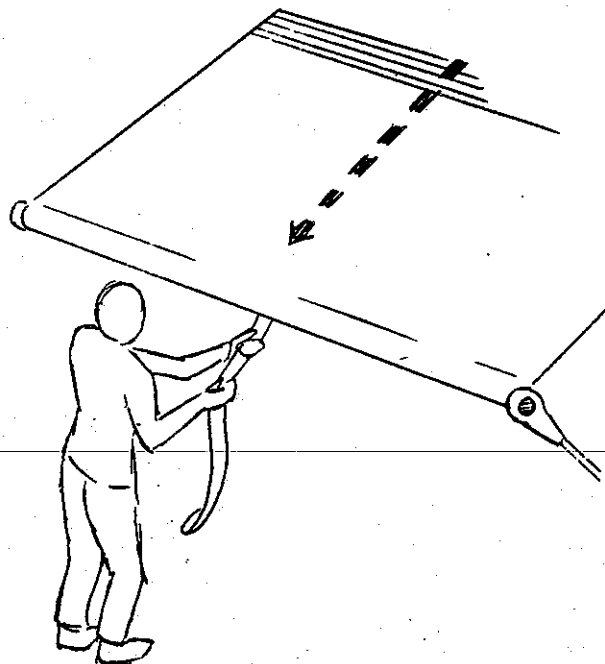

Figure 11-2.
2. Completely unroll awning by first pulling the tab toward you with the hook and then grasping strap with hands as shown in **figure 11-2**. Fold or roll the strap so the Velcro strips meet and hold tab in place next to the roller. Now move beneath the awning and proceed with step 3.